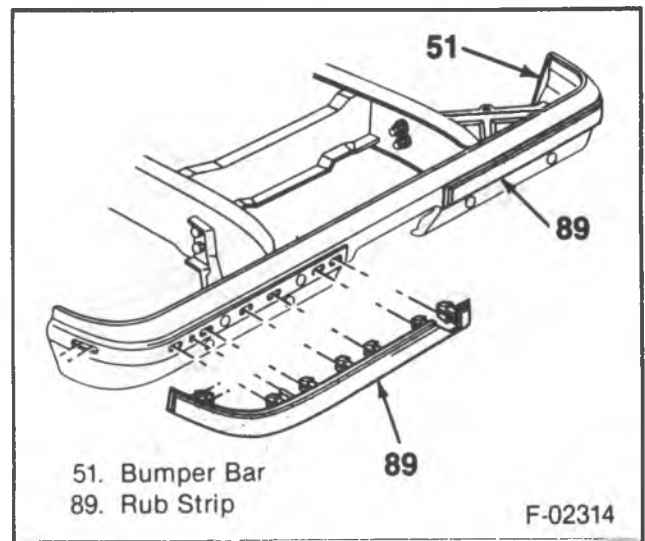

Figure 11 — Rear Bumper Rub Strip
6. Rub strips from the bumper (where used) (figure 11).
7. Bumper bolts (82).
9. Braces (72).